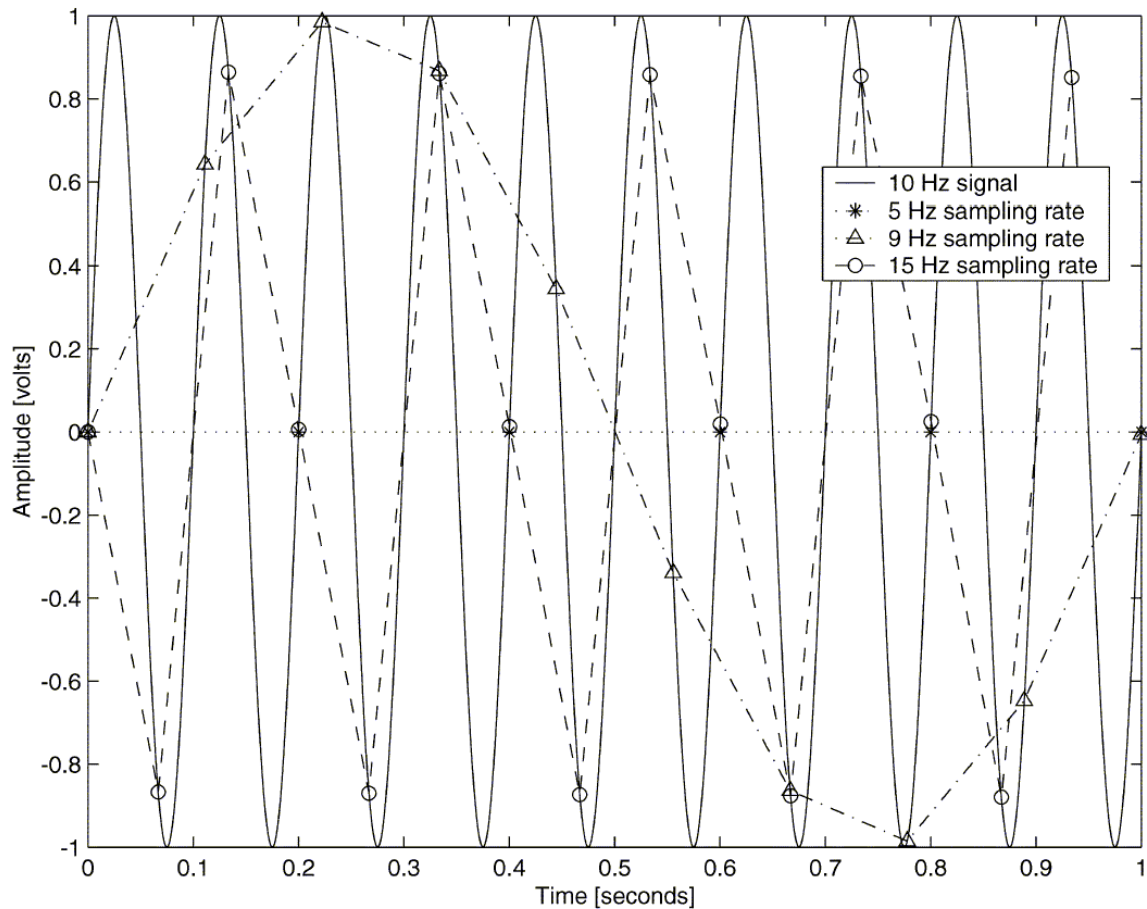

Figure 1. A 10 Hz signal sampled at various frequencies to demonstrate the aliasing phenomenon.
where $f_{alias} \leq \frac{1}{2} f_{sampling}$. Equation (1) is valid for $\frac{1}{2} f_{sampling} \leq f_{actual} \leq \frac{3}{2} f_{sampling}$. Figure 1 provides an example of a 10 Hz signal sampled at various frequencies within the alias range as a demonstration of this concept.